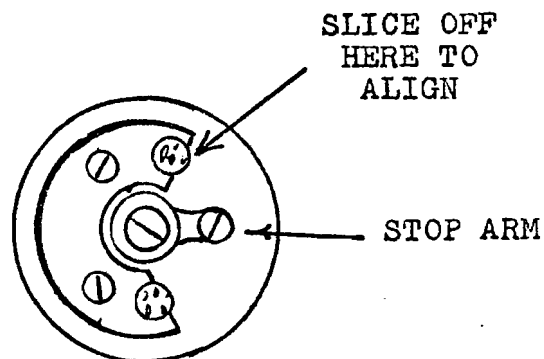

Figure 78
6. "Slice off" the edge of the cork that contacts the stop arm (Figure 78), until the alignment marks coincide.